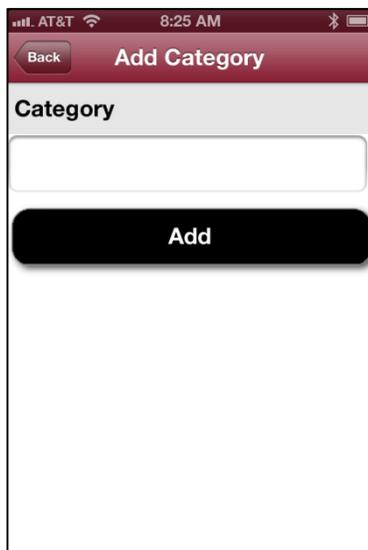

Figure 8
2. Tap in the empty field under "Category" to make the cursor appear and bring up the keyboard (Figure 8).